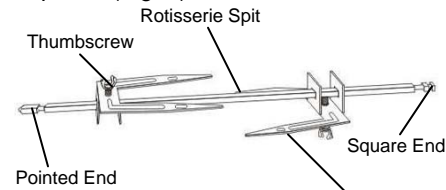

Fig. 1 Rotisserie Skewer
1. Slide one of the rotisserie skewers onto the rotisserie spit so that the pointed end of the skewer faces the pointed end of the spit. Tighten the thumbscrew to secure the skewer in place. (Fig. 1)